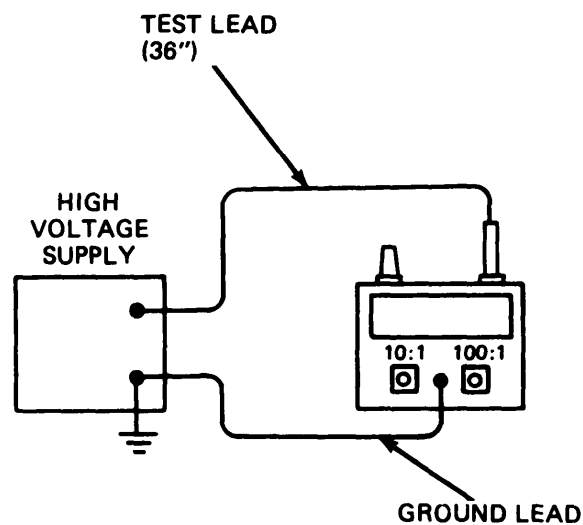

Figure 5-3. Voltage Breakdown Test Setup
a. Connect the ground lead of Multiplier (fig. 5-3) to the ground connection of the high-voltage supply.